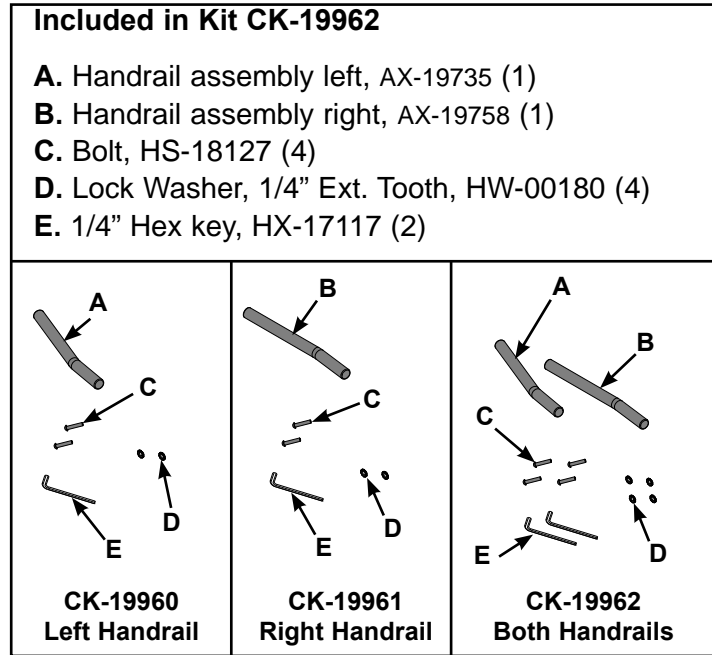

Figure 14
2. Verify the appropriate kit and contents. See Figure 14.